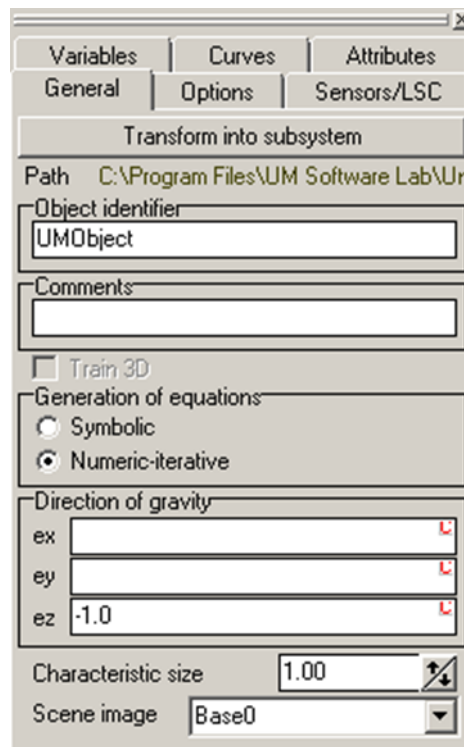

Figure 1.16.
4. Select **Object** item in the tree of elements and set **Scene image** to **Base0**, see Figure 1.16.